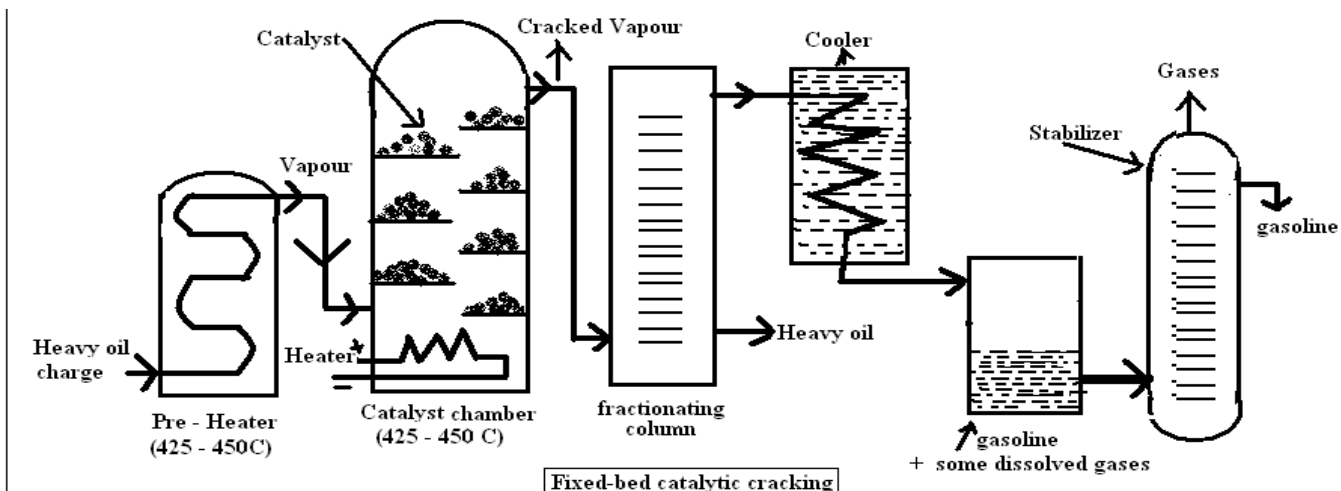

Fig. 3. Fixed-bed catalytic cracking
**Fixed bed catalytic cracking:** In this process, the oil is preheated to vapour in a preheater maintaining a temperature of  $425^\circ\text{C}$ - $450^\circ\text{C}$  and then passed through the catalytic chamber containing the catalyst (containing artificial clay mixed with zirconium oxide) maintained at  $425$ - $450^\circ\text{C}$  and  $1.5\text{ kg/cm}^2$  pressure. About 40% of heavy oil is converted into gasoline and about 2-4% carbon is formed. The latter gets absorbed on the catalyst bed. The vapours are then passed through the cooler where gasoline condenses along with some gases and uncondensed gases move on. The gasoline containing some dissolved gases is then sent to a stabilizer where the dissolved gases are removed and pure gasoline is recovered (Fig. 3).